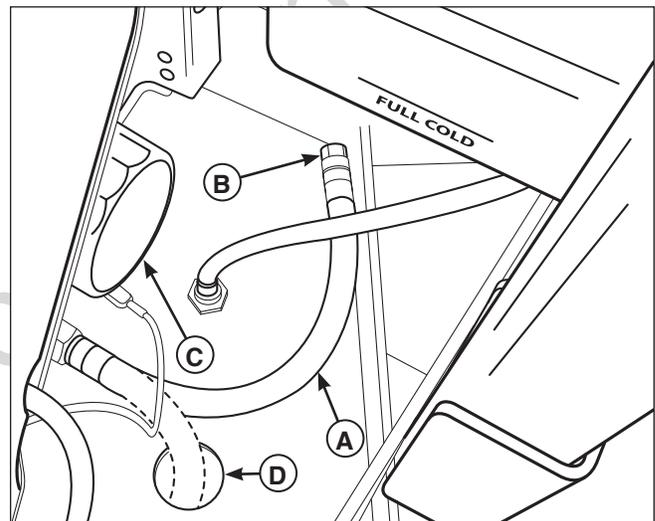

Figure 19. Engine Oil Drain (Briggs & Stratton Vanguard Engine Shown)
2. Place the oil drain hose (A, Figure 19) down through the hole (D) in the engine deck.
3. Place a small pan under the oil drain hose to catch the oil. Using the appropriate tools, remove the cap (B) from the drain hose and drain the engine oil into the pan.